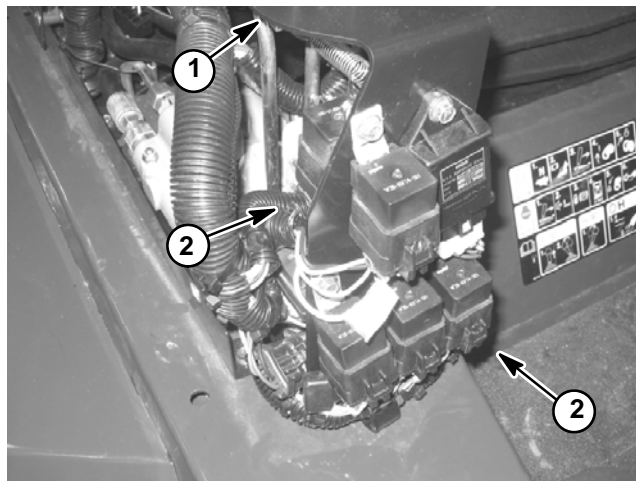

Figure 30
These eight (8) relays are located under the console housing cover (Fig. 30). The wiring harness is tagged to identify each relay.